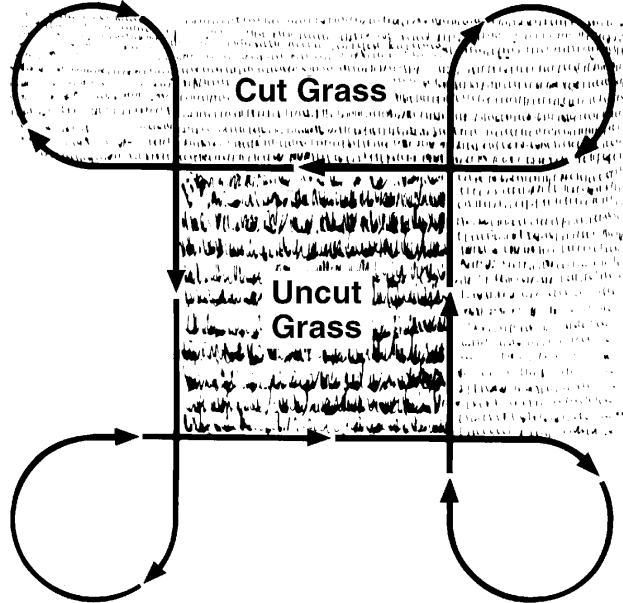

Figure 68
4. Follow the mowing pattern shown in Figure 68.